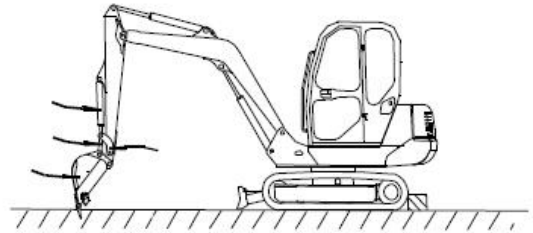

Fig. 1
- 1) First remove the bucket, bucket cylinder, connecting rod, rocker or other accessories (as shown by the arrow in Figure 1);